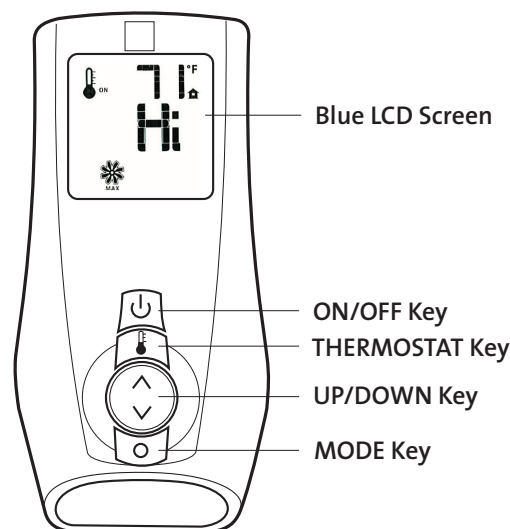
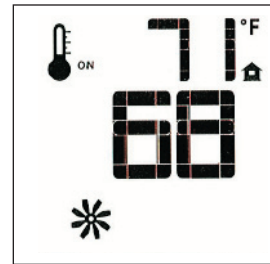

Figure 40. Remote transmitter function keys.
Figure 52. Fan Mode
The Transmitter features a simple button layout and informative display screen. See fig. 40. A bracket is included for convenient wall-mount storage.
- To activate this function, press the Thermostat Key, (Fig. 40.) The display will indicate that the room thermostat is "ON" and the current Set Temperature is now displayed. Fig. 48.
- Fan speed can be adjusted through six settings. To activate this function, press the Mode Key (Fig. 40) to index to the Fan Control icon. See fig. 52.